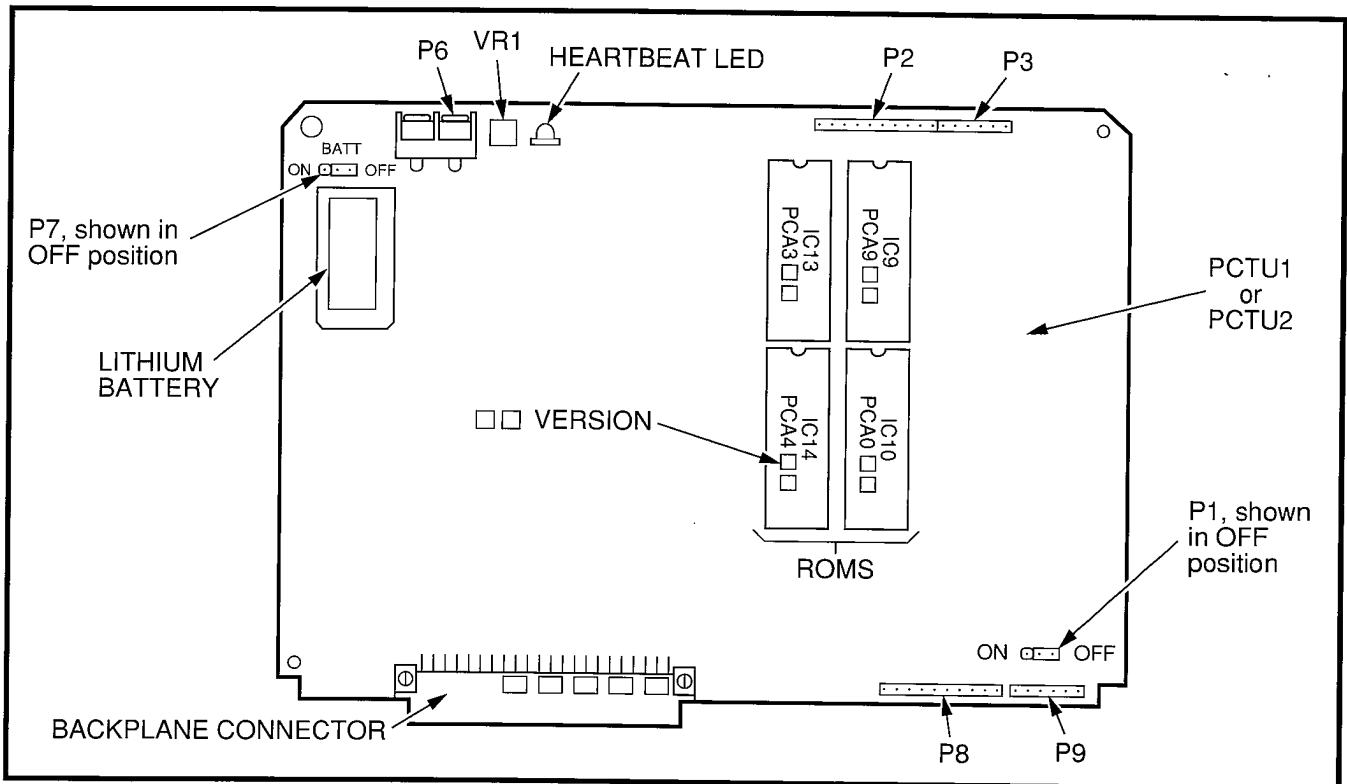

FIGURE 6-1—PCTU CONTROLS, INDICATORS, AND INTERFACE CONNECTORS
3.05 PCTU and PCTUS1 controls, indicators, and interface connectors are shown in Figures 6-1 and 6-2 and described in Table 6-A.